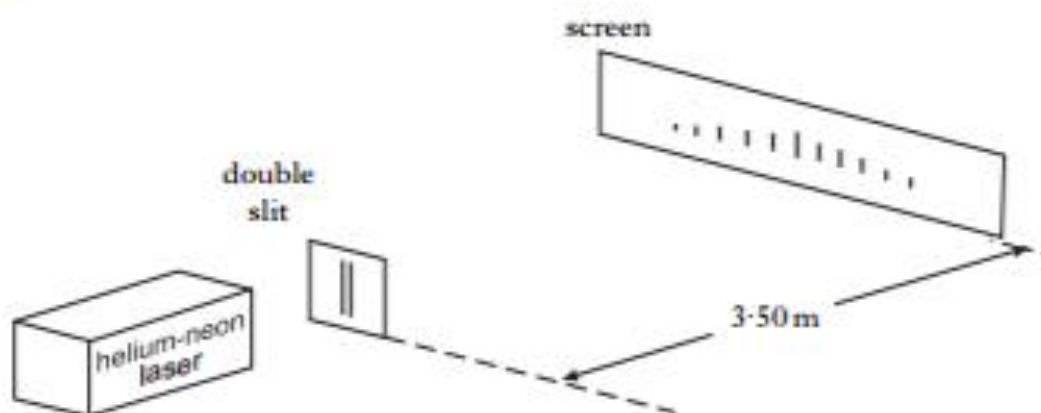

Figure 20
11. Light from a helium-neon laser is incident on a double slit. A pattern of light and dark fringes is observed on a screen 3.50 m beyond the slits as shown in Figure 20.